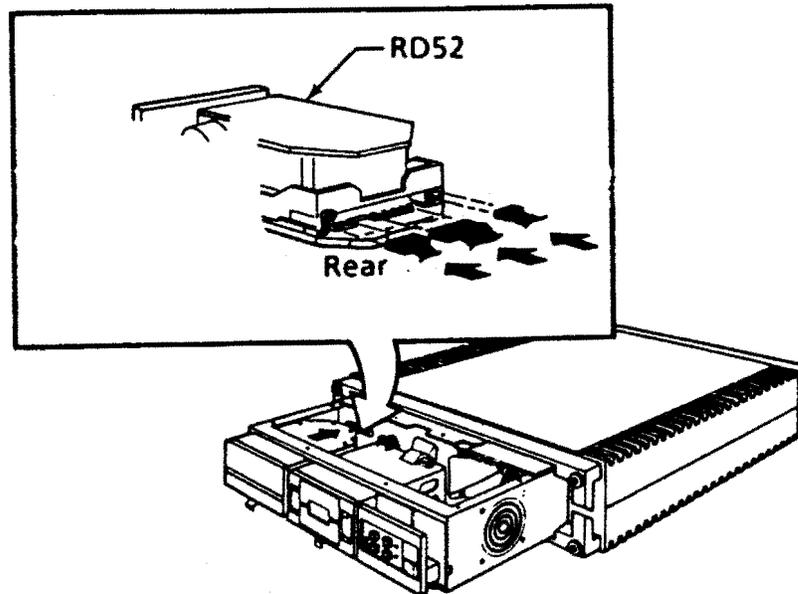

Figure 4-18: RD52 Cable Connection
5. Connect the dc power and two signal cables (Figure 4-18). Push the drive into the chassis until it latches.